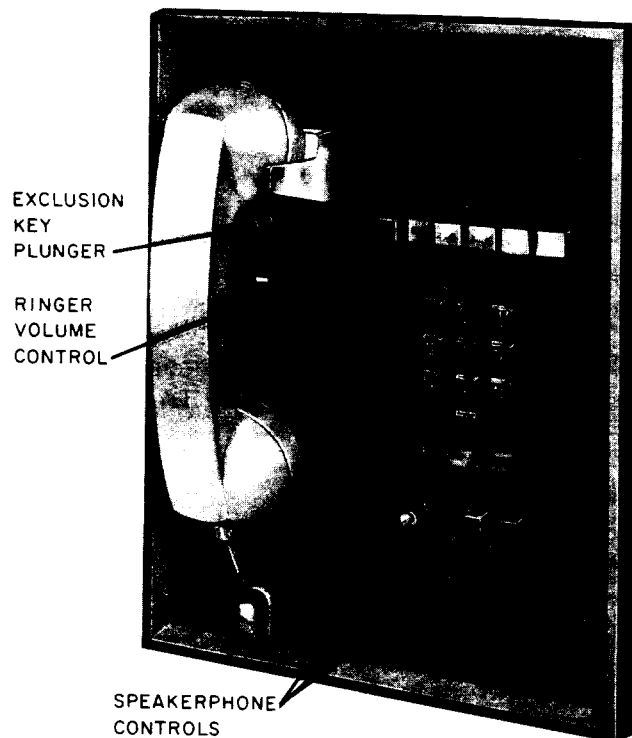

Fig. 1—1752-Type Telephone Set
**1.01** This section provides identification and installation information for the 1752-type telephone set (Fig. 1). This information was formerly contained in Section 502-750-102.